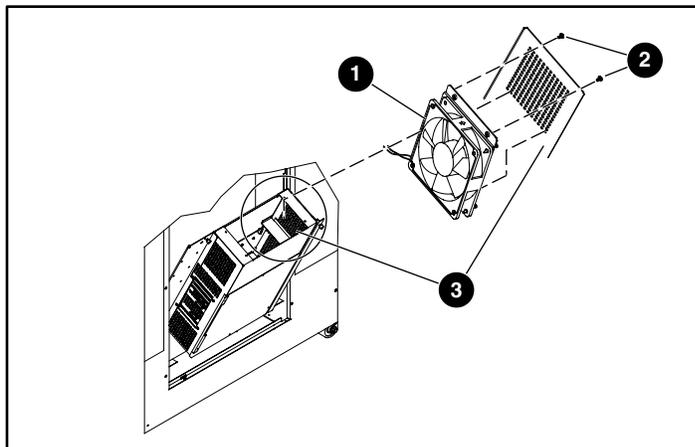

Figure 4: Mounting the fan assembly
2. Move the fan cable as shown in Figure 4.
3. Mount the fan assembly to the upper right side of the electrical box using the two screws (see Figure 4).